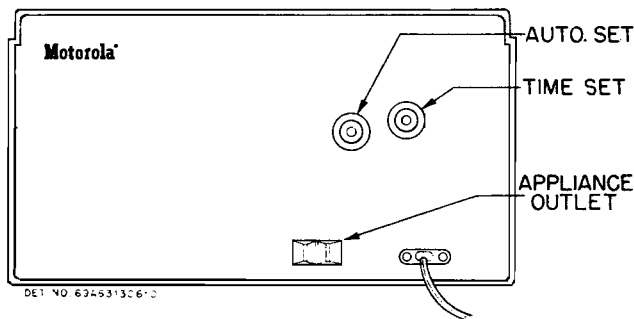

FIGURE 1. REAR VIEW OF RECEIVER
The clock is self-starting and will operate when power cord is plugged into the power outlet. The sweep second hand will indicate when the clock is running. To set it, turn TIME SET knob (see Figure 1) in a clockwise direction only. The self-starting feature, in the event of a temporary electric power interruption, will re-start the clock but it will be necessary to correct for time lost by means of the TIME SET knob.
3. Turn AUTO SET knob (see Figure 1) in a clockwise direction until RADIO ALARM SET POINTER indicates time radio is to be turned on automatically.
The APPLIANCE OUTLET is located on the rear of the set. See Figure 1. Coffee-maker, heating pads, lamps, or any other electrical appliances which operate from 117V AC current and do not consume more than 1100 watts may be plugged into the APPLIANCE OUTLET. They will turn on automatically with the radio.